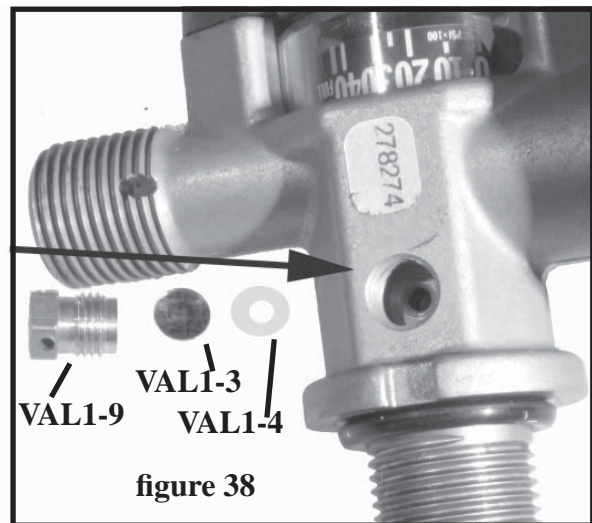

figure 38
15.6.3.7. Remove the safety disc plug (VAL1-9) by using a 3/8" wrench or socket and turning counterclockwise until it is out (figure 38). Reinstallation torque is 70-80 inch-pounds (Non-critical, for reference only). If the disc does not come out with the plug, then turn the valve so that the opening is down and then tap it against the palm of your hand. If this fails to dislodge the disc, use a sharp O-ring tool to push it thru the center of the disc and pull the disc out.